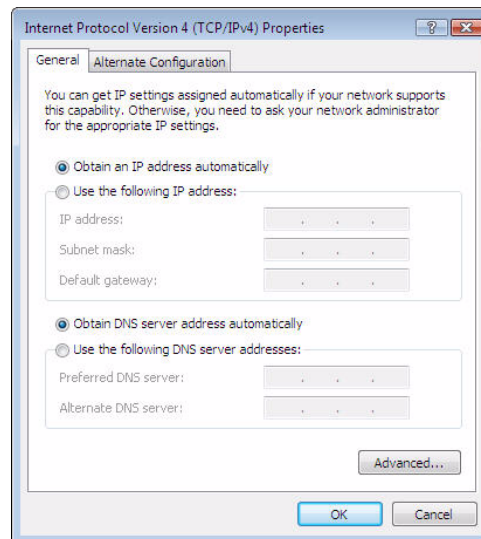

Figure 61: Internet Protocol Properties - Windows Vista
5. Click **Properties**. The Internet Protocol Properties dialog appears as shown in Figure 61.